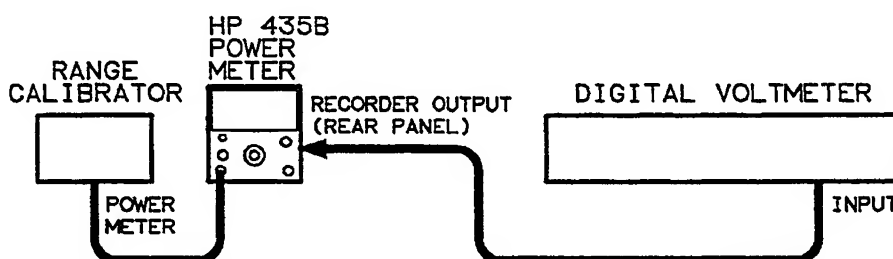

Figure 4-4. Calibration Factor Test Setup
4. Connect the equipment as shown in Figure 4-4.